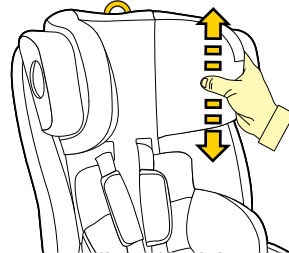

Figure 2
Step 3: Lift the headrest up or down so that the shoulder strap slots are level with or slightly above your child's shoulders. If the headrest is just above the shoulders, then the harness level will be correct (refer Figure 2)
Step 4: Release the "LIFT" ring so that it locks into position. Ensure that the headrest is locked in position by gently pushing down on the headrest. (refer Figure 2)